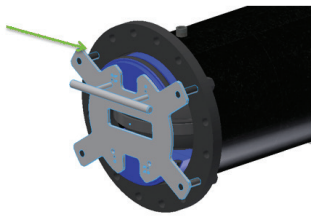

Figure 58
5.0.17) Once progressed to within approximately 4 inches of the equipment flange, the cartridge must be lifted to align the threaded studs with the insertion housing flange holes (see Figure 58).